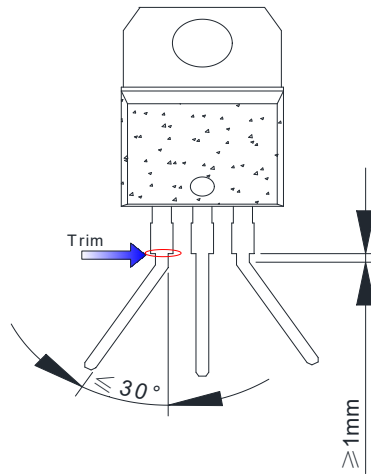

Fig. 3 Lead bending laterally
- When bending the leads laterally, as shown in Figure 3, leads can be bent as near to the trim as required but allow an adequate length of minimum 1mm from the trim to the start of a bend radius for bending. The angle must be $\leq 30^\circ$.